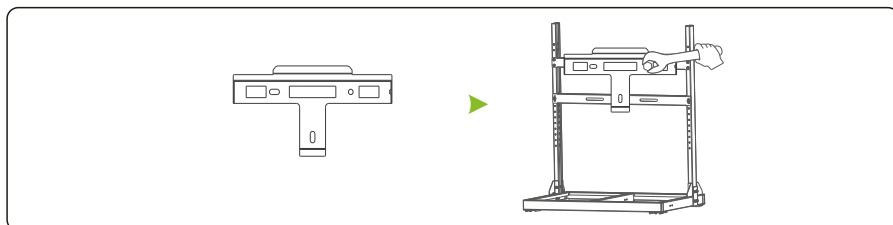

Figure 4.9 Mounting the rear panel
Step 1 Support-mounting the inverter is recommended as shown in Figure 4.9. Mount the rear panel to the supporting frame using the M12 bolts with a torque of 45N.m.